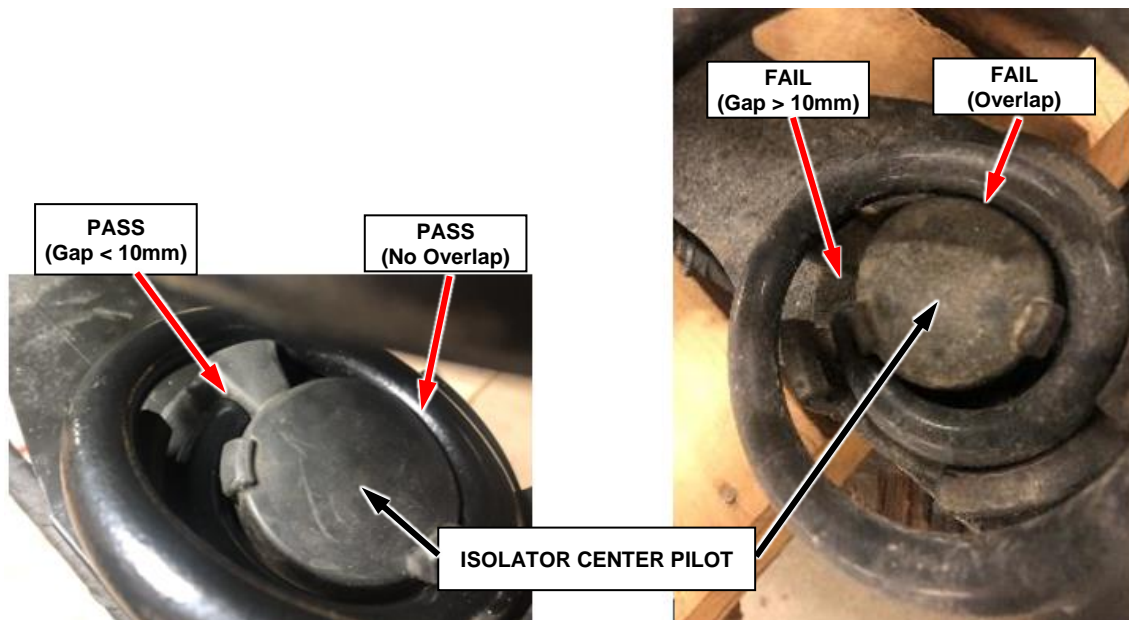

Figure 2 – Inspect Isolator Spring Pilot and Gap
- Coil not sitting on top of the center pilot of the isolator (Figure 2)